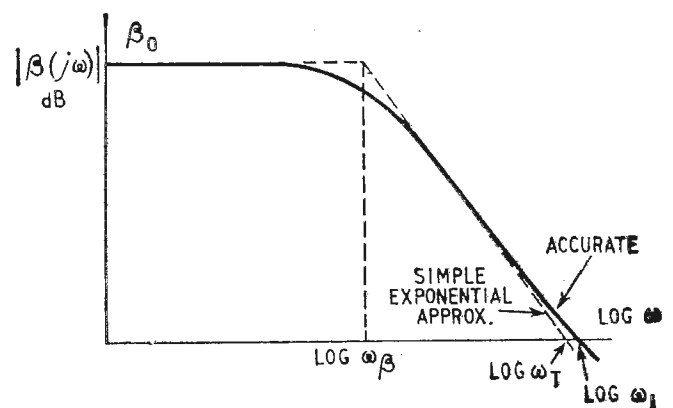

Fig. 3.
and if either the accurate approximation for $\alpha(j\omega)$, eq. (1), or the simple approximation, eq. (3), is substituted into eq. (4), the magnitudes are identical in the vicinity of ω_β (the β cut-off frequency) and for a decade or more beyond ω_β (see Fig. 3).